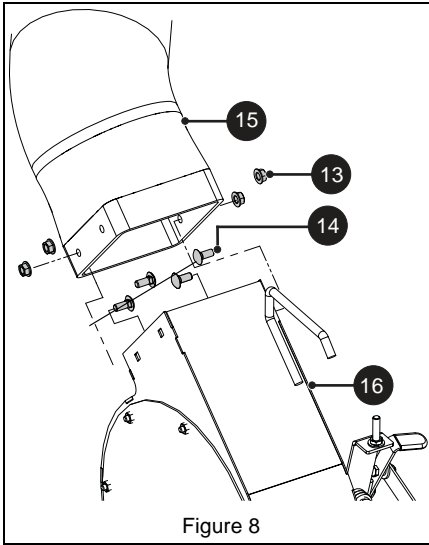

Figure 8
1. Install hose adapter (item 15) to blower assembly (item 16) using four 5/16" x 3/4" round head square neck bolts (item 14) and four 5/16" locking top flange nuts (item 13). See Figure 8.